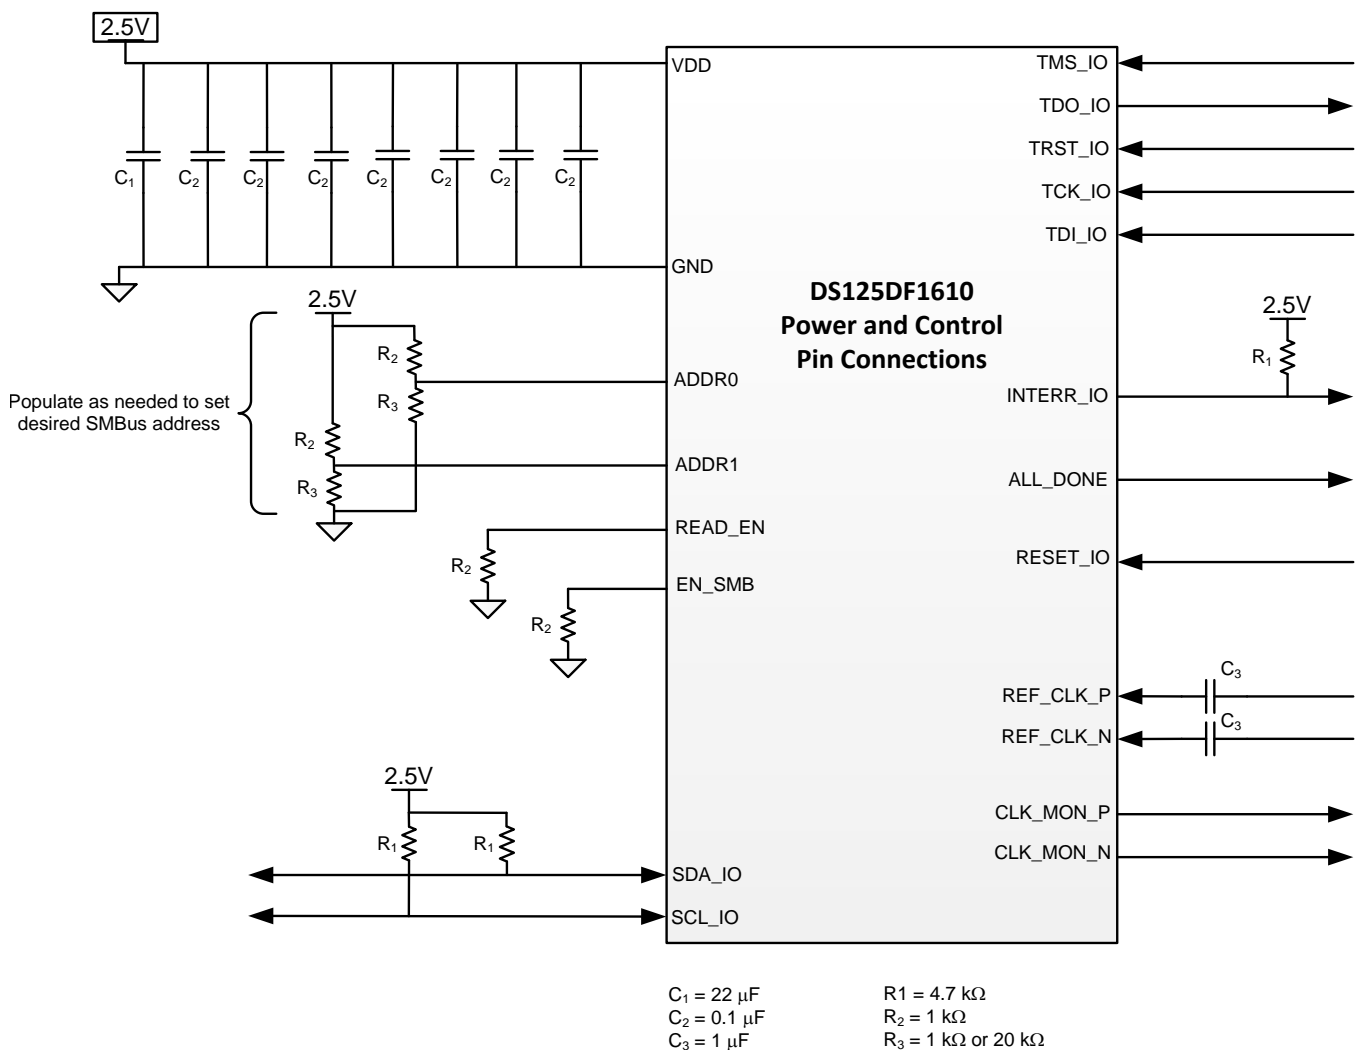
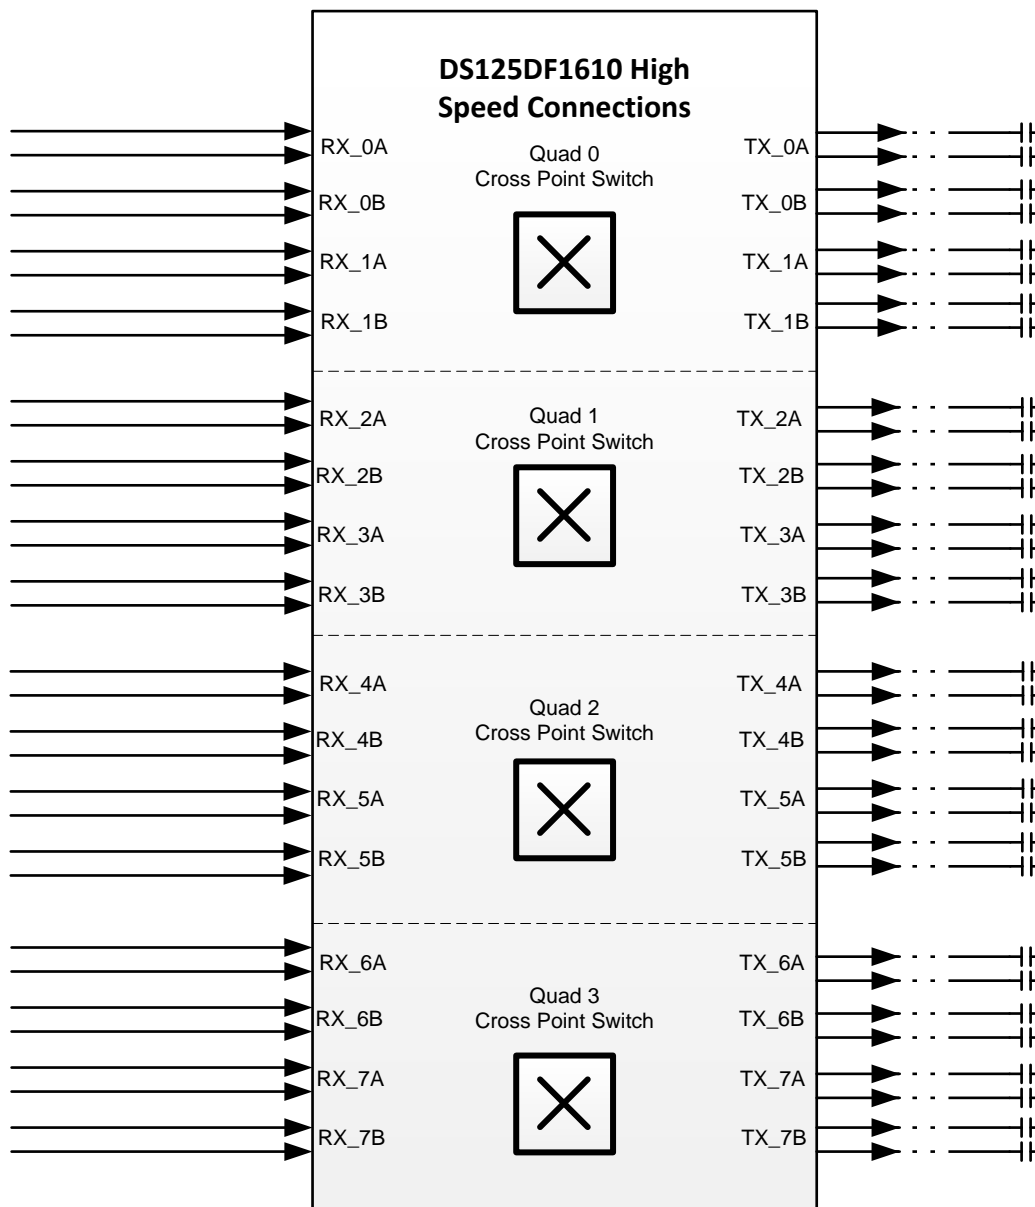

Figure 6. Typical Connection Diagram: Power and Control Pins
Figure 7. Typical Connection Diagram: High Speed Signals
Figure 6 and Figure 7 show a typical application of the DS125DF1610. In these diagrams, the DS125DF1610 is configured for SMBus slave mode programming. Power is supplied to the device through a single 2.5 V plane. The power supply filtering shown in these diagrams may need to be adjusted to accommodate additional system power noise. The SMBus and LVCMOS signals in this example use 2.5 V logic. A differential reference clock for the digital block is applied to the device through 1 μ F AC-coupling capacitors. In this example, the high speed signals are connected to the device in groups of four to allow for the system designer to make use of the 4x4 cross point switches. Note that since the device contains AC-coupling capacitors on the high speed receiver inputs, the signals can be directly connected to the device. The transmitter outputs of this device should connect to AC-coupling capacitors placed near the receive inputs of the receiving ASIC.
- Compare schematic against the typical connection diagrams in the datasheet, Figure 6 and Figure 7